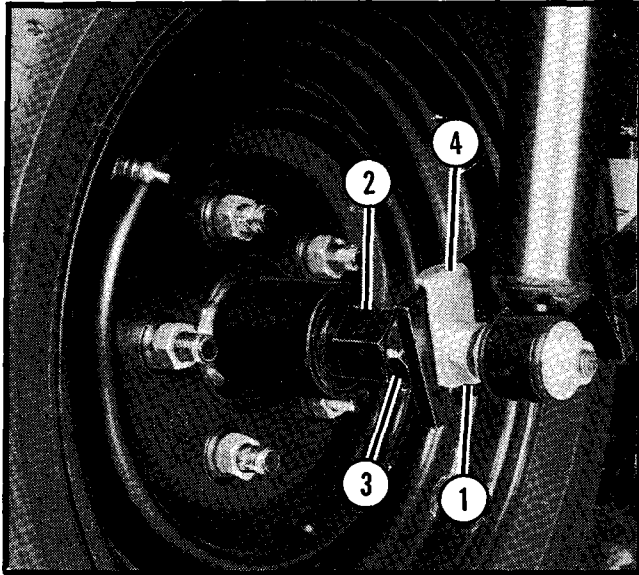

Figure 11.
10. Install hub onto axle. Tighten the bearing adjustment nut 7 to 13 lbs. ft. (10 to 17 N-m) torque while rotating the hub by hand. Back off nut 1/6 turn. This will allow the hub to rotate freely without drag. A slight amount of end play is allowed. See Figure 11.
11. Tighten bearing jam nut. See Figure 11.